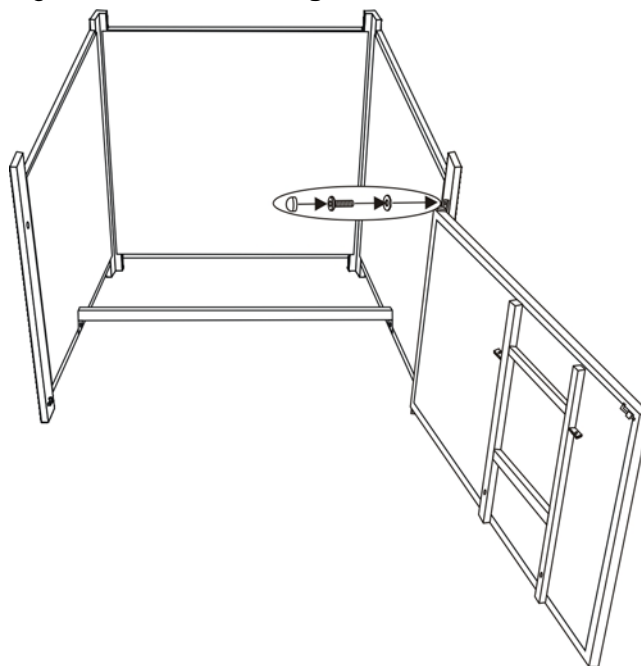

Figure 5
5. Put the door onto the bottom connector by guiding the pin in the bottom connector into the hole under the door. Then guide the pin in the top connector into the hole on the top of the door. Use a 1/4"x15 mm bolt and washer to attach the top connector to the right side panel as shown in Figure 5. **Do not over tighten.**